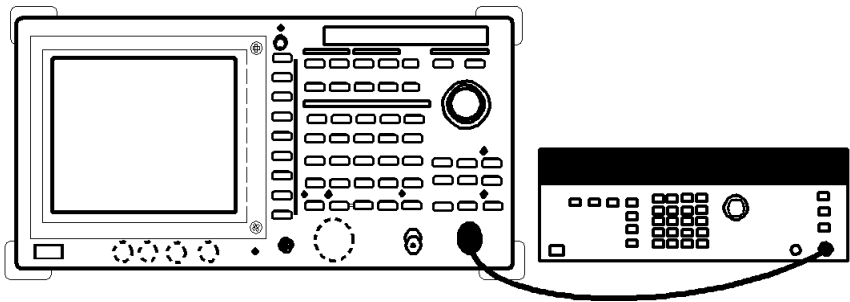

Figure 1-15 Setup for Measuring a Sweep Time Accuracy
1. Connect the function generator as shown in Figure 1-15.